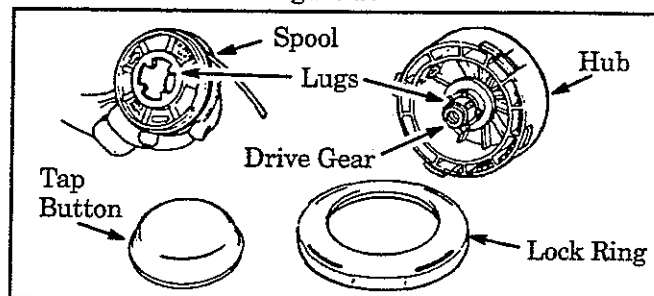
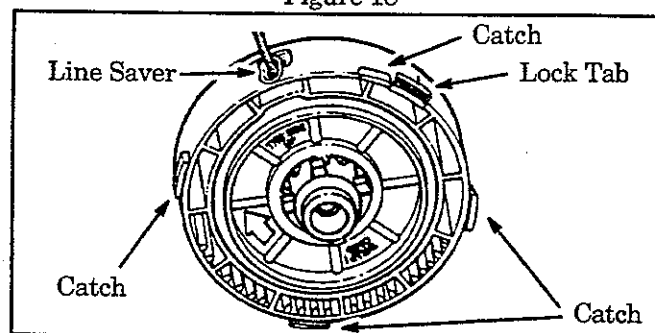

Figure 18
Figure 19
- Remove the lock ring, tap button, and spool. Figure 18.
NOTE: The aluminum line saver (Figure 19) can become worn during use. After a groove is worn into the line saver, remove it from the trimmer head, turn it upside down, and re-install it (with the spool removed) to provide a new wear surface.
- Insert the end of the line through the line saver. Figure 19. Place the spool in trimmer head. Press the spool down, then turn it enough to lock the lugs on the spool under the lugs on the drive gear. Figure 18.
- Replace the tap button. Align the lock ring over the catches on the hub; push the lock ring down on the hub and turn it clockwise until the catches lock into place. Figure 19.